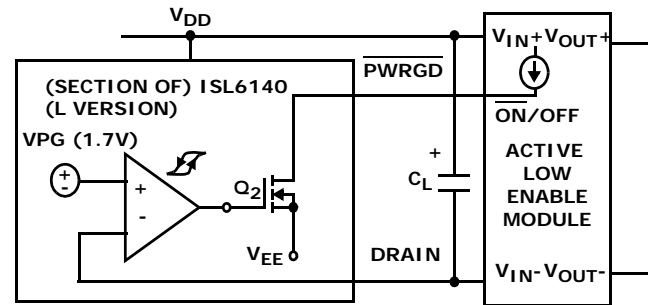

FIGURE 6. ACTIVE LOW ENABLE MODULE
**ISL6140** (L version; Figure 6): Under normal conditions ( $\text{DRAIN} < \text{VPG}$ ), the  $Q_2$  DMOS will turn on, pulling  $\overline{\text{PWRGD}}$  low, enabling the module.